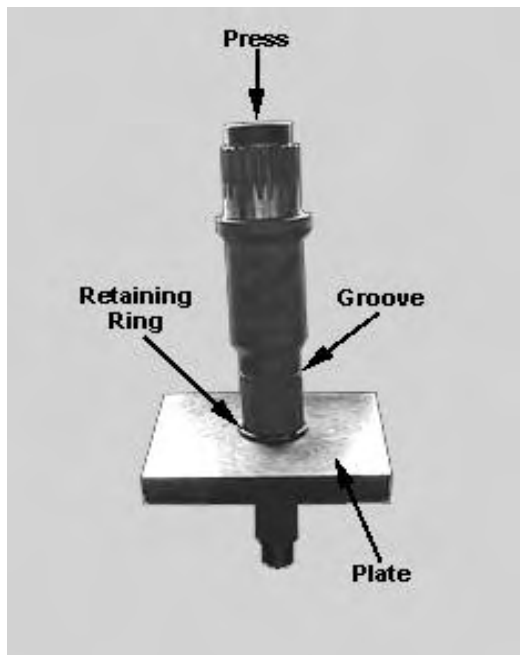

Fig. 32
1. Slide retaining ring onto input shaft (using a press and plate) until it is seated in the groove. See Fig 32. (Rear output shaft is shown, method for input shaft similar.)
See Fig. 32.